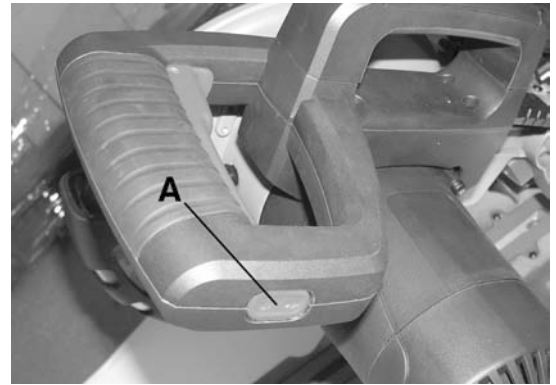

Figure 14
The twin laser guide system is controlled by the laser guide push button switch (A) Fig.14 and will only turn on when the miter saw is plugged into a power source.